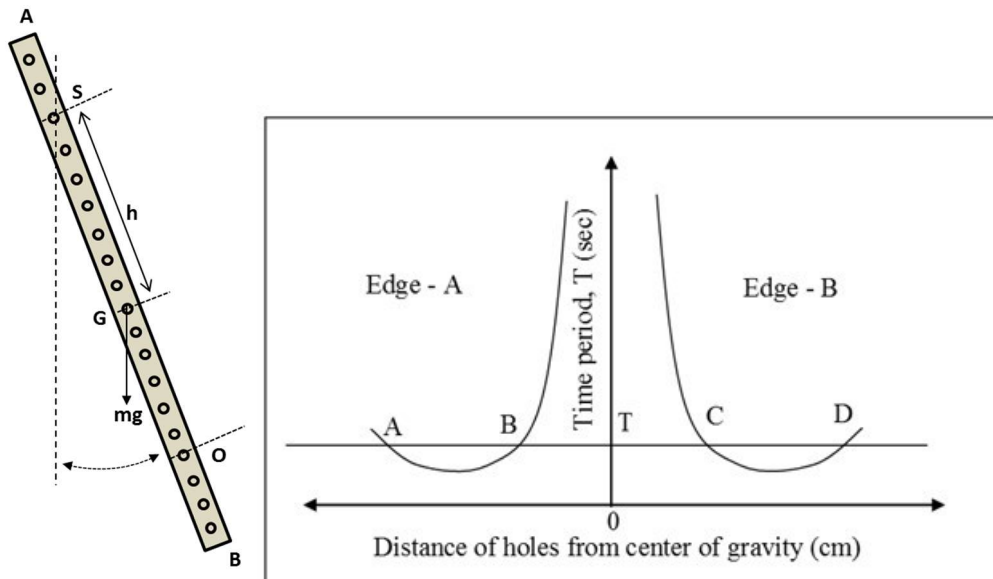

Figure 1: Demonstration of compound pendulum oscillations and corresponding time period vs distance graph.
In this experiment, we will determine the length L and corresponding time period T graphically [see Figure 1]. If we plot a graph using table (1), two curves symmetric about the position of COM should appear.
7. Draw a graph T vs d for Edge A and Edge B observations as shown in the Figure 1.